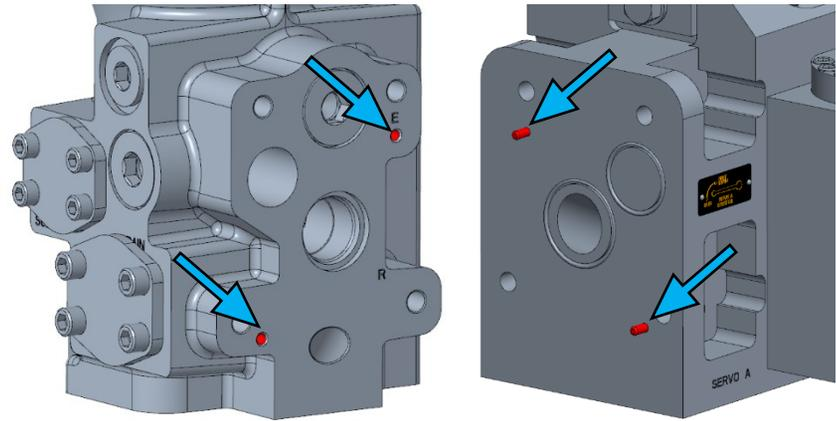

Figure 2-38. VariStroke Alignment with VS-DX Manifold
7. Align the new VariStroke servo with the VS-DX manifold using two dowel pins (Figure 2-38).